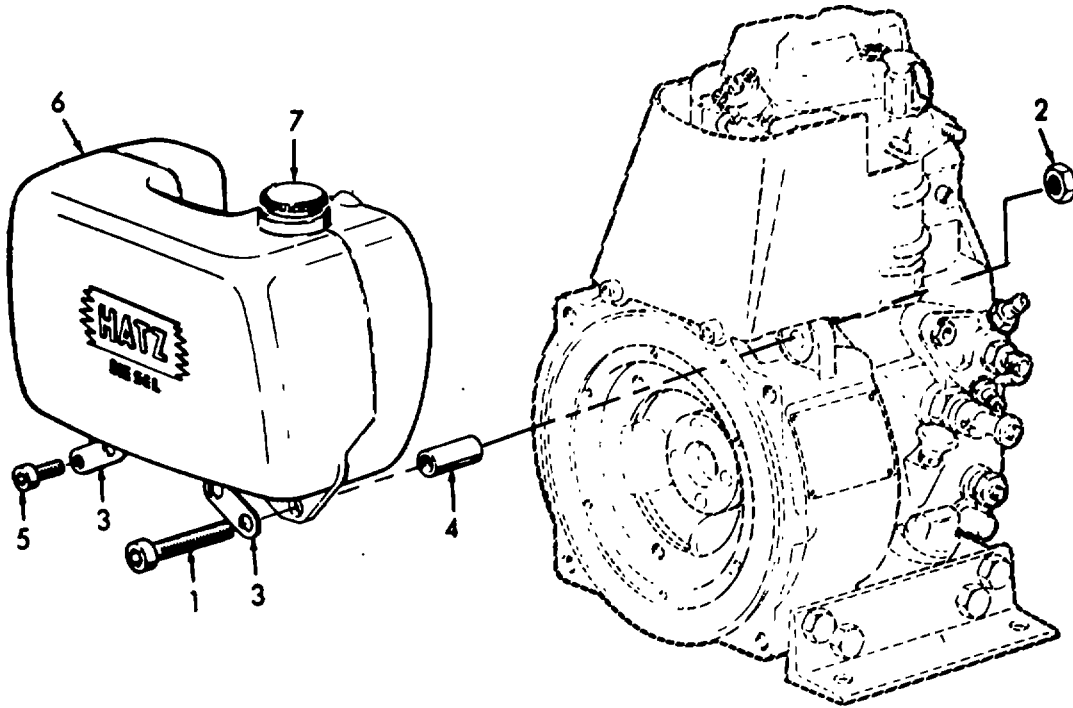

Figure 4-8. Fuel Tank Removal/Installation.
a. Removal. (Refer to figure 4-8).
- (1) Remove two screws (1), two nuts (2), four spacers (3), two spacers (4), and two screws (5).
- (2) Lift up on fuel tank (6) and remove. Replace fuel cap (7) if damaged.